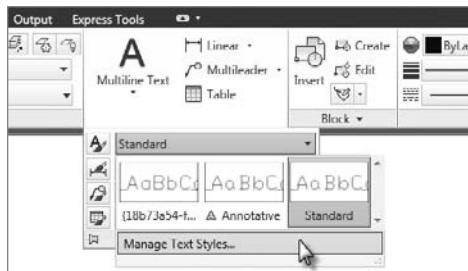

FIGURE 8.2 Starting the **STYLE** command
1. Expand the Text Style drop-down list found on the Home tab > Annotation panel, and choose Manage Text Style (see Figure 8.2) or enter **ST** ↴ to start the **STYLE** command.